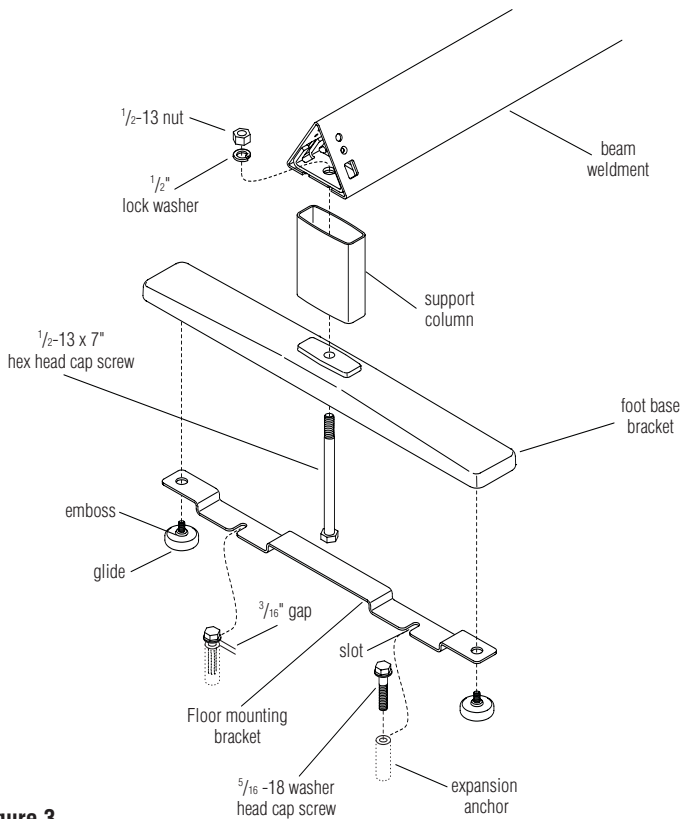

Figure 3
2. Insert a 1/2-13 x 7" hex head cap screw through the underside of the foot base bracket, allowing the head of the cap screw to set into the hex shaped form in the bracket. Place a floor mounting bracket against the bottom surface of the foot base bracket as illustrated. Three surfaces of the floor mounting bracket should contact the foot base bracket. Thread both glides through the floor mounting bracket and into the threaded hole on both ends of the foot base bracket, allowing the emboss (where the threads meet the top of the glide) to set into the hole in the floor mounting bracket. Repeat for the other end of the seating unit. Five seat units do not require a floor mounting bracket on the center foot casting (Figure 3).
4. Place the support column over the column locator on the foot base bracket assembly at each end of the seating unit. Carefully align the holes in the beam weldment with the 1/2-13 x 7" hex head cap screws. Lower the beam weldment over the columns until the support column is seated between the column locators on the foot base bracket and the column locators on the beam. Secure the assembly with a 1/2" lock washer and 1/2-13 nut. Tighten and repeat for the other end of the seating unit (Figure 3).
5. At each end of the beam, tighten the 5/16-18 washer head cap screws that secure the assemblies to the floor (Figure 3).